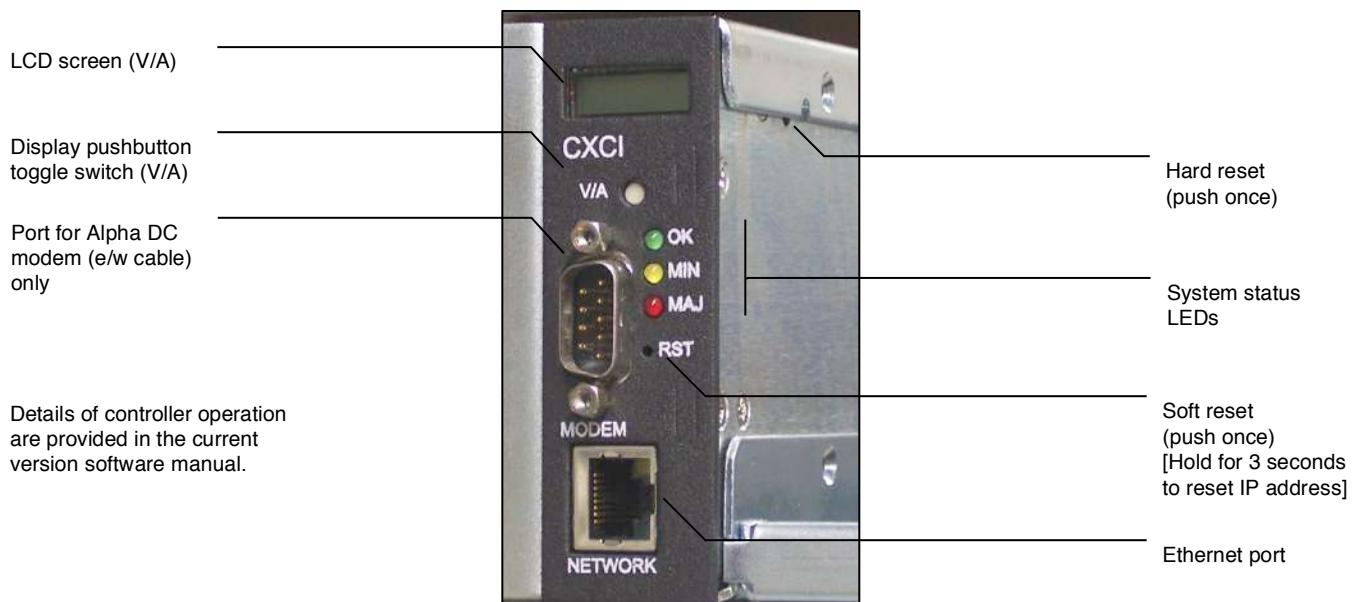
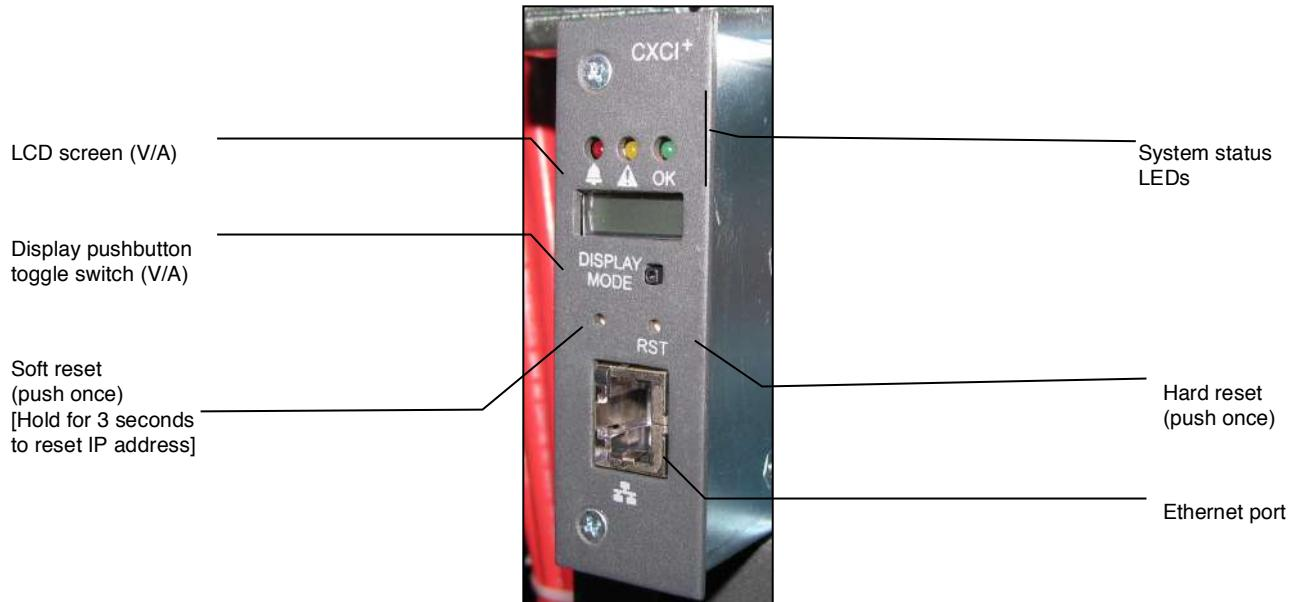

Figure 2—Cordex CXCI model system controller front panel
Figure 3–Cordex CXCI+ model system controller front panel
The CXCI (Figure 2) and CXCI+ (Figure 3) controllers have a 4-digit display, for monitoring system voltage (V) and current (A). A pushbutton toggle switch allows the user to alternate the display reading.
The Modem port (front panel DB-9 connector, Figure 2) is designed for CXCI connection to the Alpha Cordex DC Modem #018-585-20 (complete with Alpha cable).
The Ethernet port is designed for CXCI/ CXCI+ connection to a user supplied network (TCP/IP secured by user) via a front panel RJ-45 jack (Figure 3 and Figure 3) and a standard network cable.